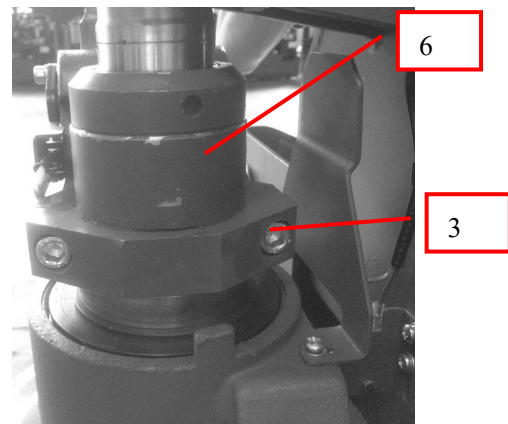

Fig.18
- (Fig.18) Install the removed handle to oil cylinder 6, align to it and tighten the screw 3;